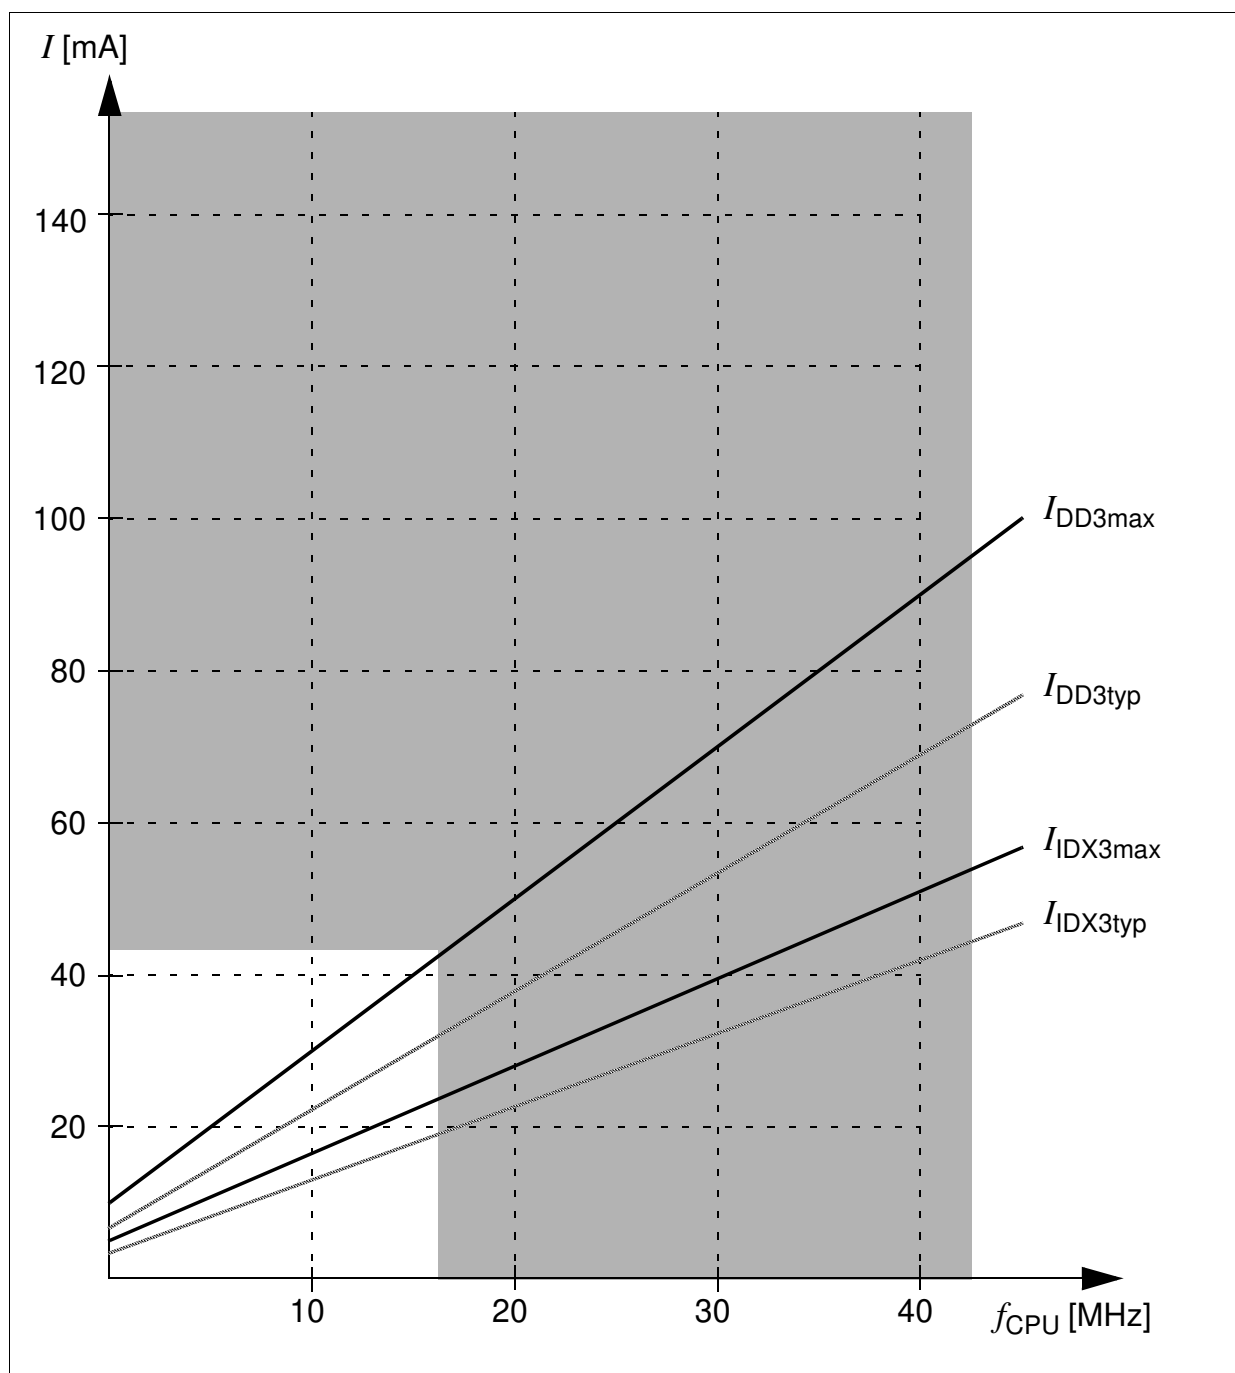

Figure 10 Supply/Idle Current as a Function of Operating Frequency
1) The supply current is a function of the operating frequency. This dependency is illustrated in **Figure 10**. These parameters are tested at V_{DDmax} and maximum CPU clock with all outputs disconnected and all inputs at V_{IL} or V_{IH} .